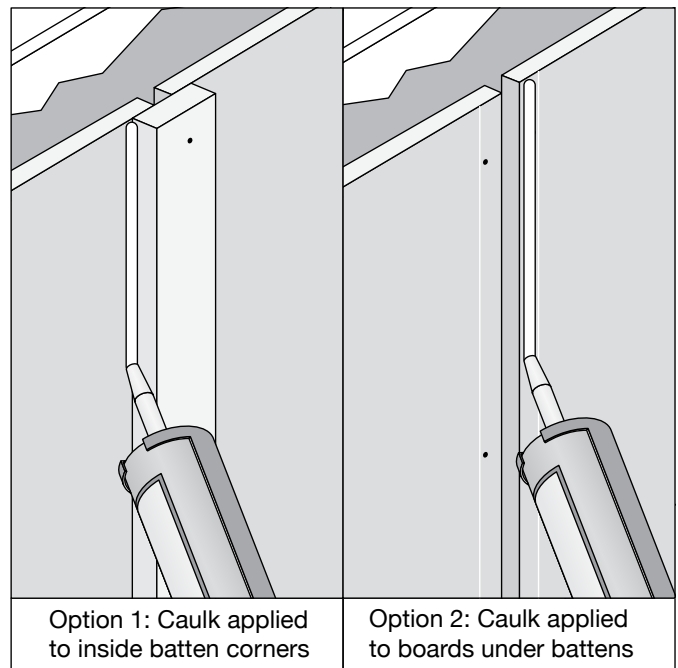

Fig. 5b
- You can apply a bead of high-grade exterior acrylic caulk to both inside corners of the batten (**Fig. 5b**).
- You can alternatively apply a bead of high-grade exterior acrylic caulk to each board just prior to fastening the batten (**Fig. 5b**).